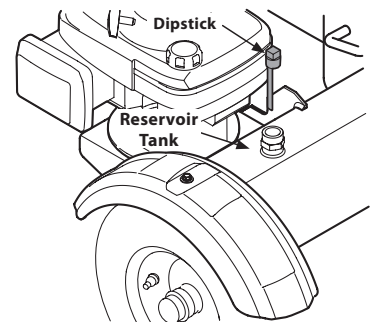

Figure 10
2. Remove the vented reservoir dipstick, which is located next to the hydraulic filter on top of the reservoir tank. See Figure 10.